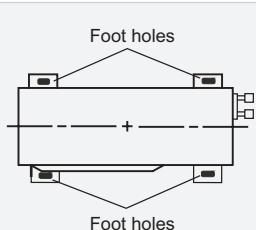

Fig.20
(1) Place the outdoor unit on the support.
(2) Fix the foot holes of outdoor unit with bolts. (As show in Fig.20)